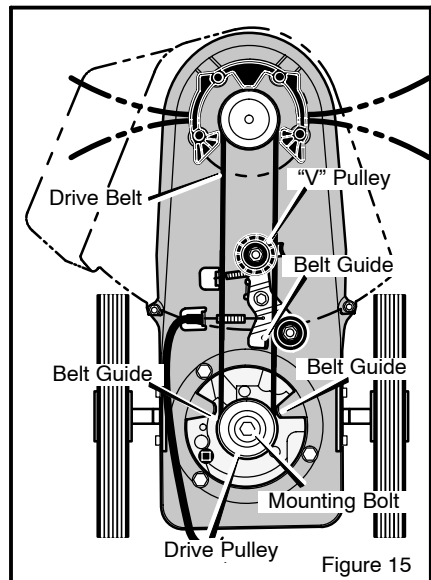

Figure 15
4. Raise the front of the **trimmer housing** and remove the **drive belt**. On some models, it is necessary to loosen the **mounting bolt** for the **drive pulley** to remove the drive belt (see Figure 15). Do not bend the belt guides.
6. Check the routing of the **drive belt**. Make sure the **drive belt** is inside of all **belt guides** shown in Figure 15.